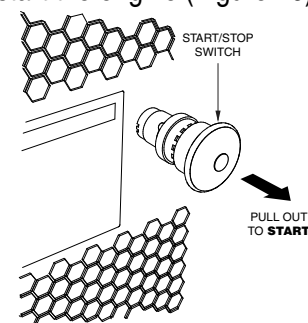

Figure 16. Start/Stop Switch (Start Position)
6. Pull the Start/Stop Switch, located on the engine cover, outward to start the engine (Figure 16).